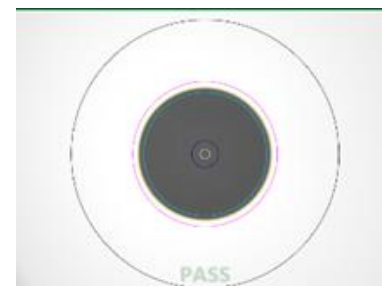

Figure 2: Image of Clean Fiber
- If a fiber stub (a darker circle on a lighter background as shown in figure 2) is detected, follow standard inspection and cleaning procedures. If you are unable to focus on a fiber end face, do not clean the port. The SFP contains a lens and cannot be cleaned.